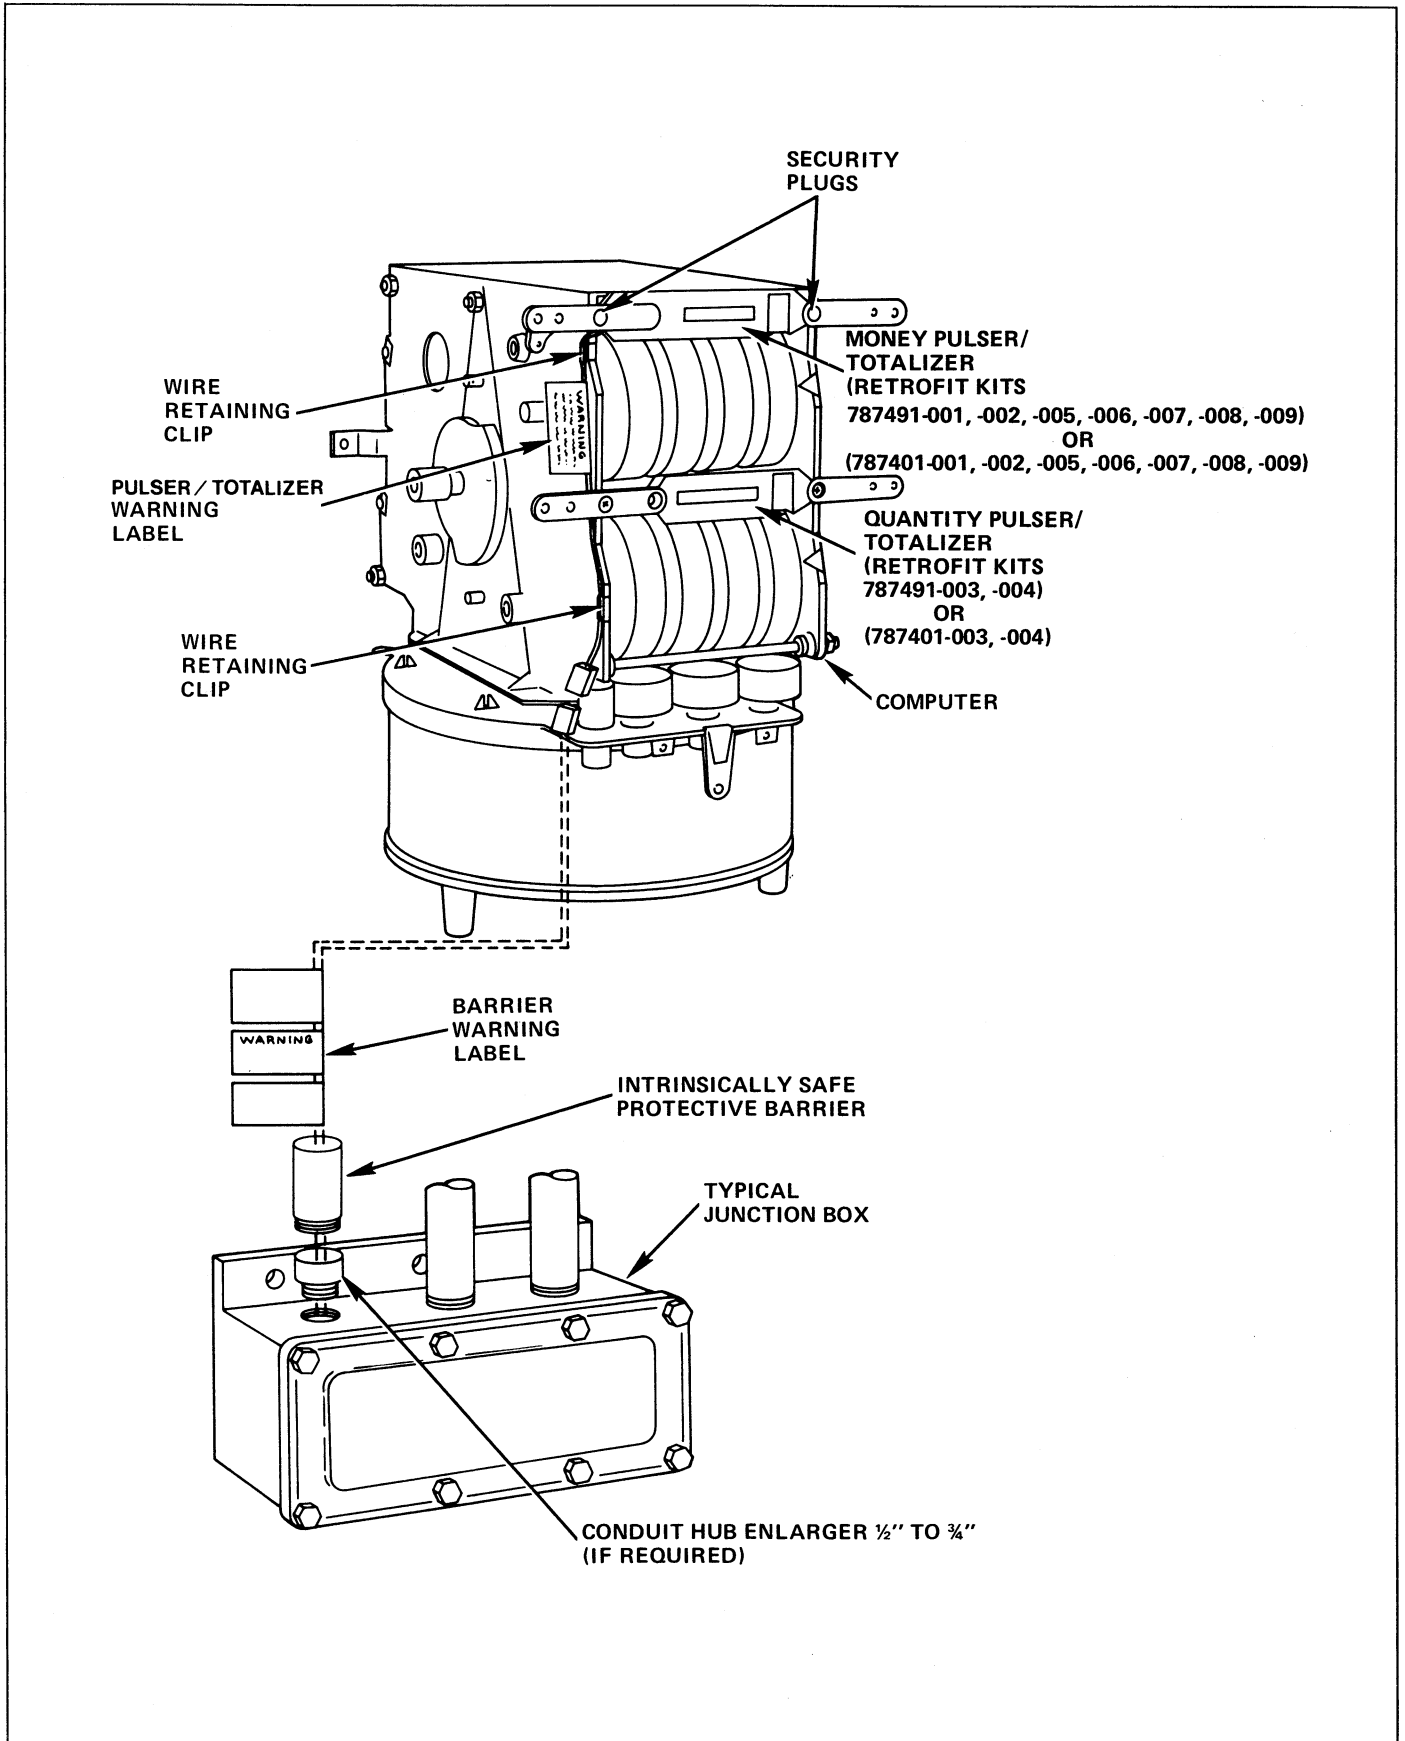

Figure 1. Pulsar/Totalizer and Intrinsically Safe Barrier Typical Installation.
C. INSTALLATION (See Figures 1 and 2).
2. Route pulser/totalizer wires down side frame of computer and secure wires with Wire Retaining Clips, Part No. 576008-285. Barbed side of clips slide onto computer side frame. Refer to Figure 1.
4. Insert white and orange wires, from barrier, through threaded opening in junction box. Screw barrier in junction box and tighten. **AT LEAST 5 FULL THREADS MUST BE ENGAGED.** Use 1/2" to 3/4" Hub Enlarger, Part No. 514100-167 (if required) supplied in retrofit kit. See Figure 1.
Note: Check to see that the WARNING labels on totalizer wires and on barrier wires are still attached to wires. These labels must be attached to wires at all times. If these labels are missing or wording is not legible, they must be replaced. See Figures 3 and 4. Refer to Figure 1 for locations.